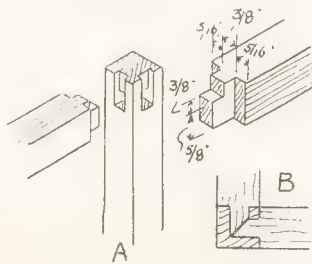

Fig. 2—Details of corner joints
The corner joints are detailed in Fig. 2. Sizes of the tenons are given in detail (A), the mortises being cut in the posts to correspond. As the tenons will meet together in the mortises, as at (B), mitre them. Test these joints and if necessary glasspaper or file the mitred ends of the tenons if they are a shade too long and likely to prevent the joints closing up properly.